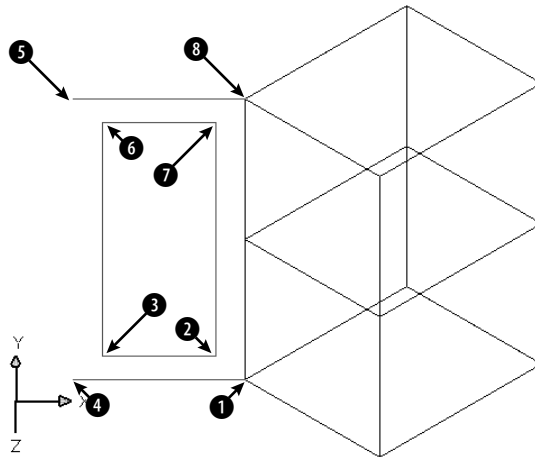

Figure 23-5: The partially completed cabinet.
Your drawing should look like Figure 23-5.
Specify first point or [Invisible]: *Pick the endpoint at ❶ in Figure 23-5.*
Specify second point or [Invisible]: *Pick the endpoint at ❷ in Figure 23-5.*
Specify fourth point or [Invisible] <create three-sided face>: *Pick the endpoint at ❹ in Figure 23-5. Notice the edge lines between ❶ and ❷ and between ❸ and ❹.*
Specify third point or [Invisible] <exit>: *Right-click and choose Invisible. Pick the endpoint at 5 in Figure 23-5.*
Specify third point or [Invisible] <exit>: *Pick the endpoint at 1 in Figure 23-5.*